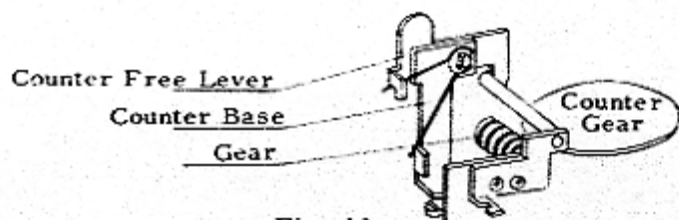

Fig. 13
- 3) When Counter Free Lever is positioned at the same place as Counter Base 39-9857, the Gear and Counter Gear should be completely disengaged. See Fig. 13.